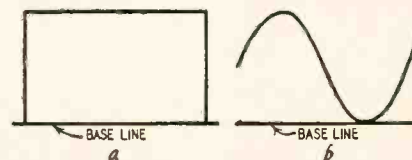

Fig. 2—*a*, Rectangular pattern shows perfect match of line to load; *b*, sine-wave pattern touching base line shows complete mismatch—dead short or wide open.
2. Even if you find that you are really concerned with matching 300 ohms to 450 ohms, how about the SWR in the rest of the system? That is, if you sweep each terminated section of the system, do you find SWR's in the order of 1.2 to 1, or perhaps more like 3 to 1 or 5 to 1? It is only logical to make certain that we are not swallowing a camel, while gagging at a gnat. Fig. 2 shows the extremes of patterns encountered in SWR tests.
When the trace touches the zero-reference line, as in Fig. 2-b, the SWR is infinite. That is, any peak voltage divided by zero is infinite.